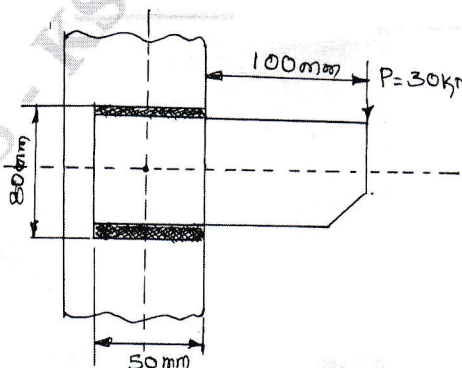

Fig. Q6 (b)
- b. Determine the size of the weld to be used for a bracket as shown in the Fig. Q6 (b). The load is 30 kN. (15 Marks)